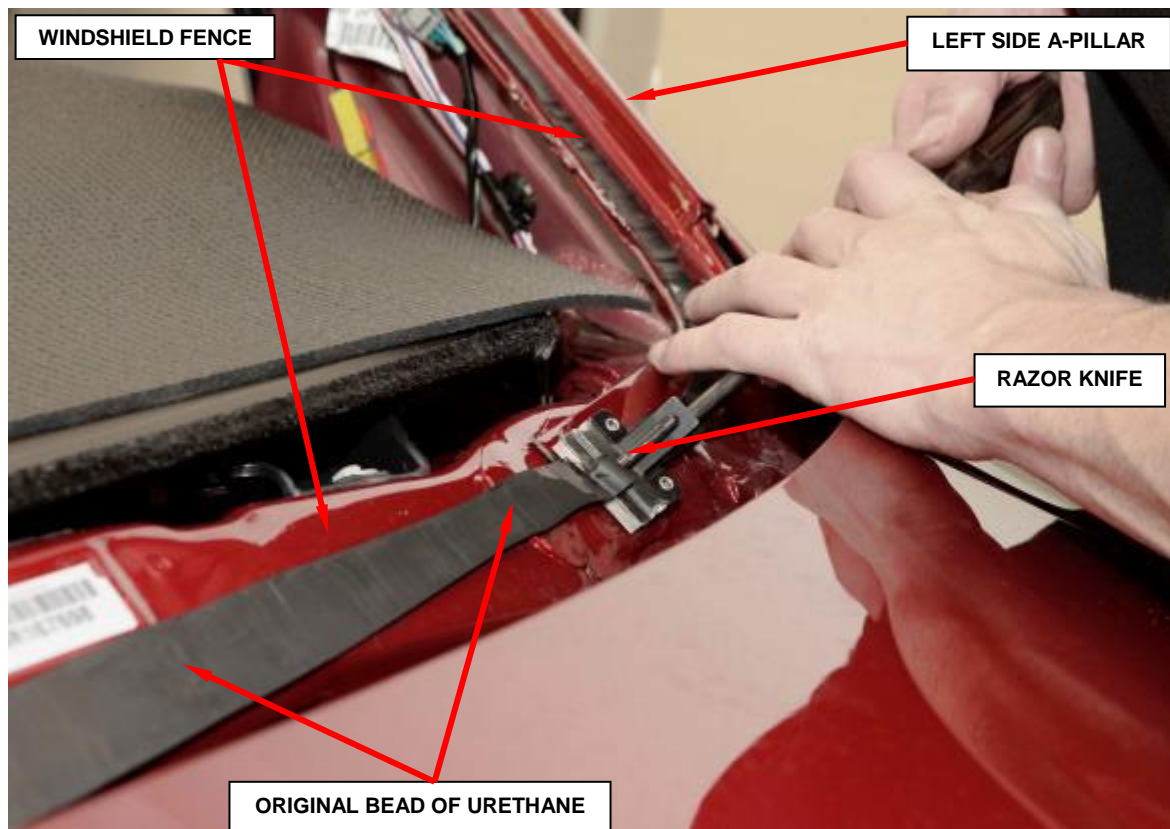

Figure 5 - Urethane on the Windshield Fence
11. Using a razor knife or equivalent, level the original bead of urethane on the windshield fence to a thickness of approximately 0.04 in. (1 mm) and remove any damaged adhesive backed spacers (Figure 5).